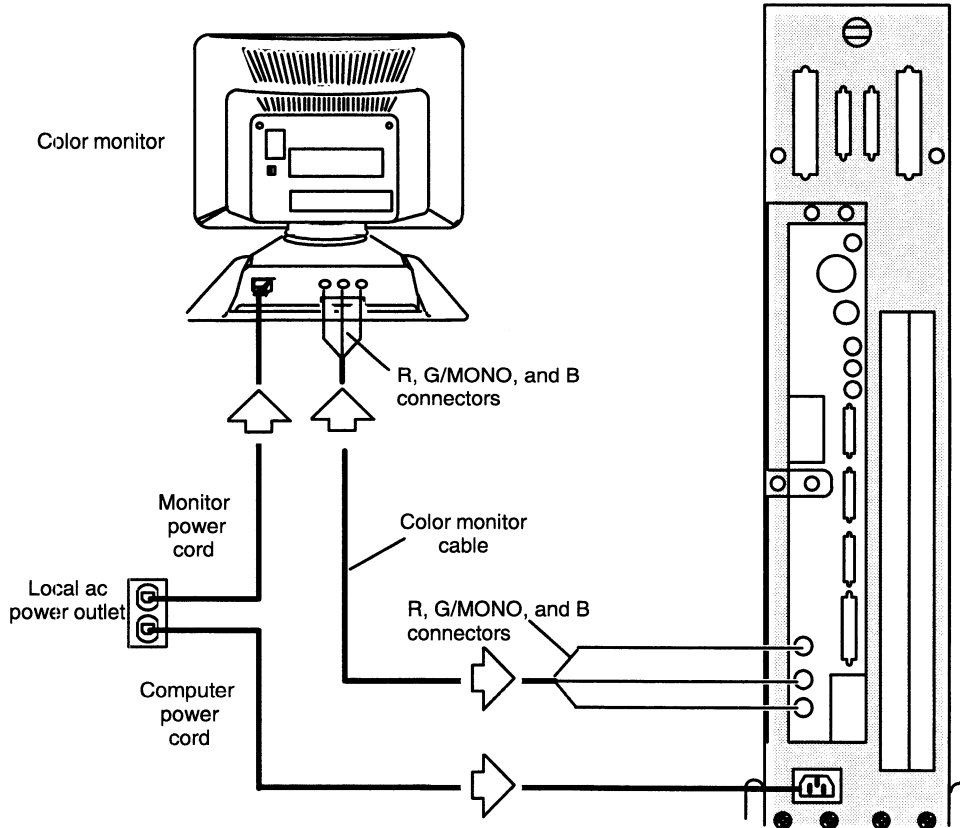

Figure 2-3 Plugging the Cables and Power Cord into the Monitor and Computer Unit
2. Plug one end of the monitor BNC cable into the connectors on the back of the monitor. The cable is coded with red, green, and blue color strips near the connector ends. Connect the red cable to the R monitor connector, the green cable to the G/MONO connector, and the blue cable to the B connector, as shown in Figure 2-3. Turn the ends of the cables clockwise to lock them in place.
3. Plug the other end of the monitor cable into the connectors on the back of the computer unit. The color monitor cable has color-coded ends which plug into the appropriate R, G/MONO, and B connectors on the back of the computer unit, as shown in Figure 2-3. Turn the ends of the cables clockwise to lock them in place.